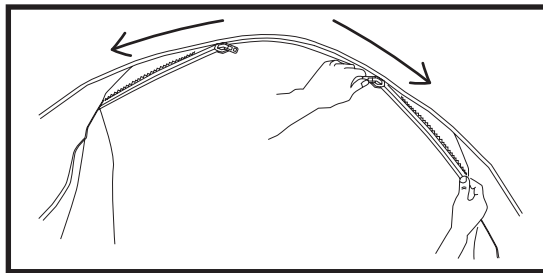
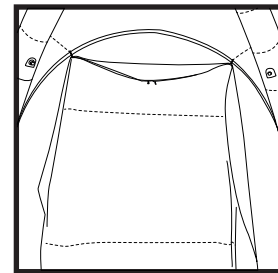

Fig. 3
Fig. 4
7. Zip the wall and roof with the zipper starting from the center and heading down (Fig. 3). For 5x5 and 6x6m tents, hang the wall first using the hooks sewn into the roof next to the zipper (Fig. 4).